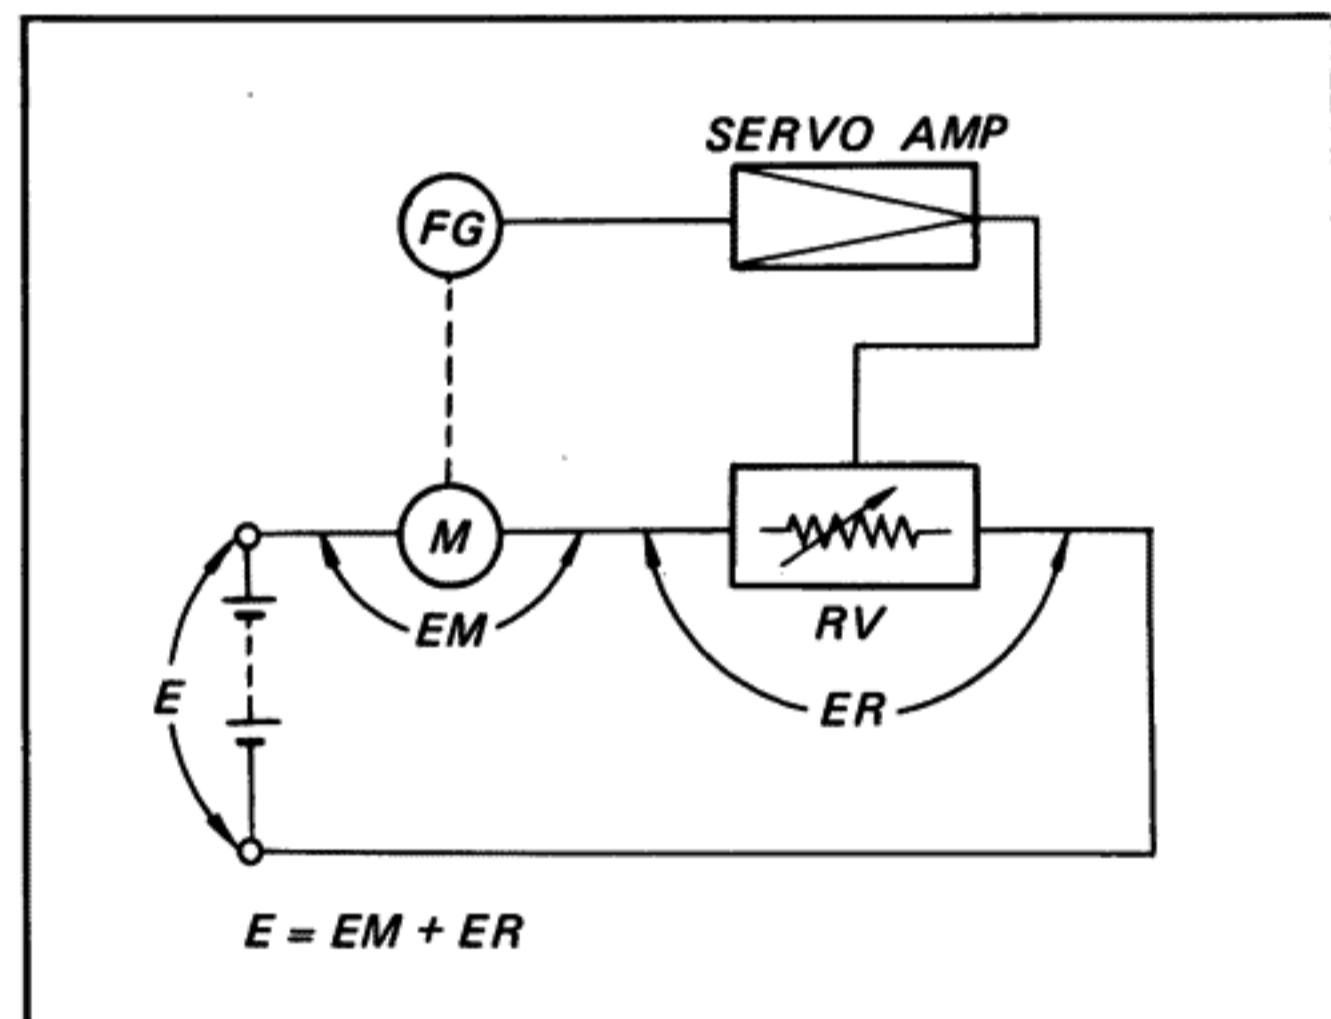

Fig. 1-1. Principle of dc servo system
Fig. 1-1 shows a simplified diagram of the dc servo system employed in this set. Since the motor speed is proportional to the applied voltage, it is controlled by varying the applied voltage (EM) to the motor. This is effectively performed by means of series resistor RV .